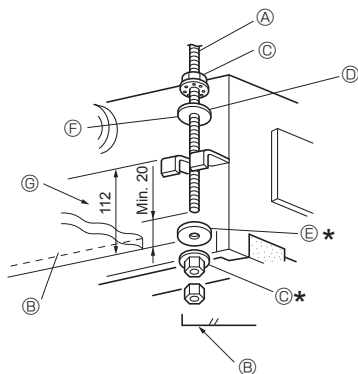
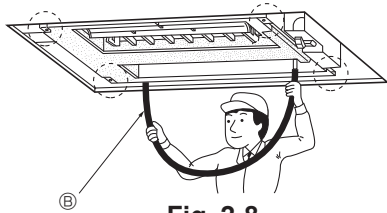

Fig. 2-7
Fig. 2-8
1. Thread washers ① ② (supplied) and their nuts (procured locally) onto the suspension bolt in advance. (Fig. 2-7)
* Do this in the following order (from the top): nut, insulated washer ②, washer without insulation ①, 2 nuts.
* Position insulated washer ② with the insulated surface pointing down, as in the figure.
2. Lift the unit into place, aligned properly with the suspension bolt. Pass the bracket between washers ① and ②, which are already in place, and secure it. Do the same in all four places.
① Suspension bolt (3/8" or M10)
⑤ Washer ①
② Ceiling surface
⑥ (Install with insulation facing down)
③ Nut (3/8" or M10)
⑦ Measurement to upper face of bracket
④ Washer ② (with insulation)
4. Check that the four corners are all level, using a spirit level or clear plastic tubing with water in it. (Fig. 2-8)